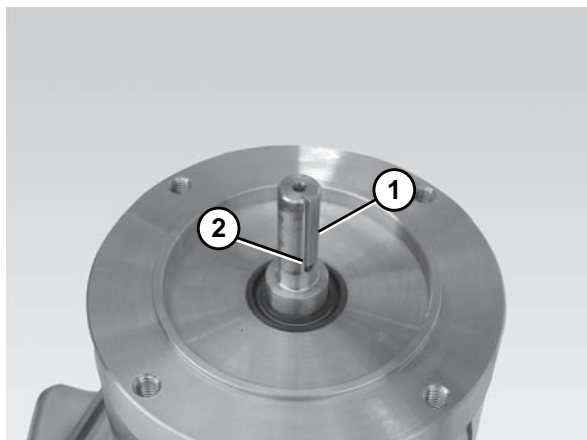

**Figure 20**
5. Slide the gearmotor assembly (**Figure 20, item 1**) off the drive spindle (**Figure 20, item 2**).